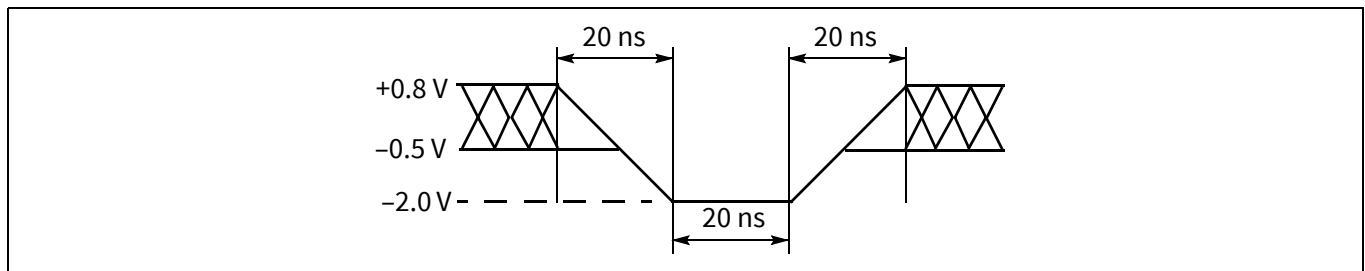
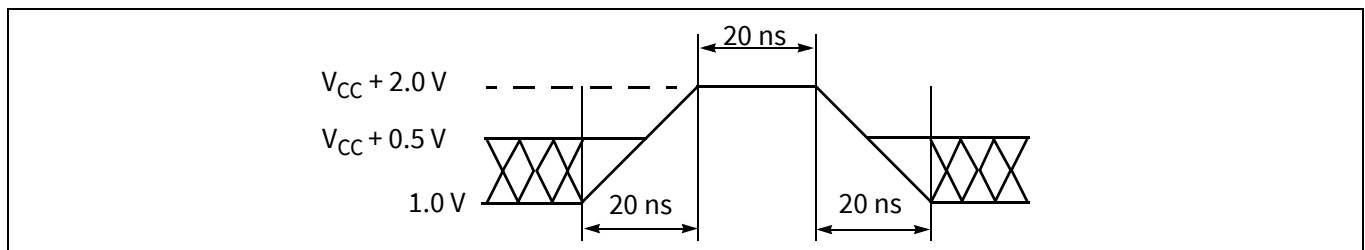

Figure 3 Maximum negative overshoot waveform
Figure 4 Maximum positive overshoot waveform
26. Minimum DC voltage on input or I/Os is –0.5 V. During voltage transitions, inputs or I/Os may undershoot V_{SS} to –2.0 V for periods of up to 20 ns. See Figure 3. Maximum DC voltage on input or I/Os is V_{CC} + 0.5 V. During voltage transitions outputs may overshoot to V_{CC} + 2.0 V for periods up to 20 ns. See Figure 4.
27. Minimum DC input voltage on pin V_{PP} is –0.5V. During voltage transitions, V_{PP} may overshoot V_{SS} to –2.0 V for periods of up to 20 ns. See Figure 3. Maximum DC voltage on pin V_{PP} is +9.5 V, which may overshoot to 10.5 V for periods up to 20 ns.